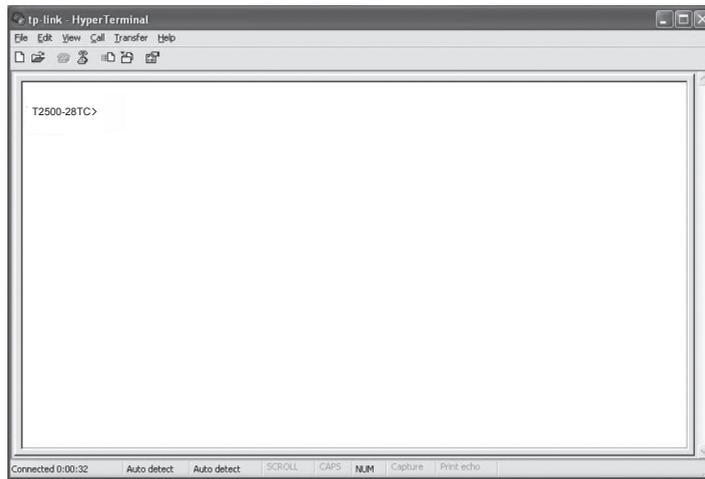

Figure 5-8 Log in the Switch
- The DOS prompt "T2500-28TC>" will appear after pressing the Enter button as shown in Figure 5-8. It indicates that you can use the CLI now.